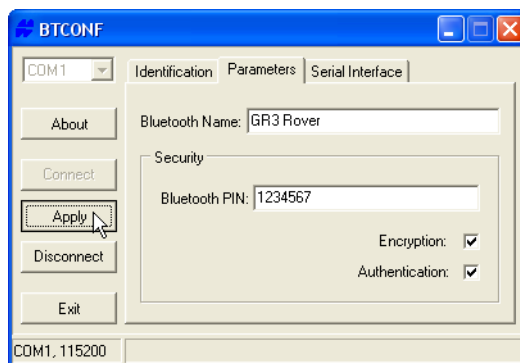

Figure 2-22. BTCONF Security Parameters
5. Click the **Parameters** tab (Figure 2-22 on page 2-25). The Parameters tab sets identifying and security information for your Bluetooth module. The security section allows you to set data security and unauthorized access parameters for the Bluetooth module.
7. To set security parameters (Figure 2-22 on page 2-25), enter and enable the following, then click **Apply**: